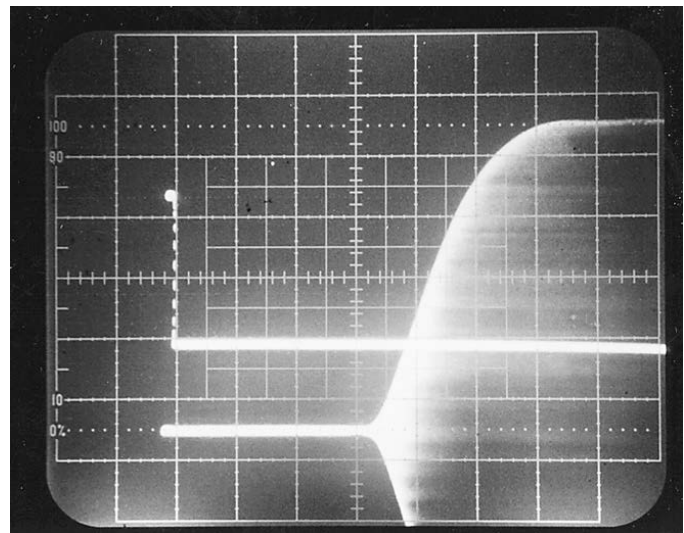

Fig. 4-8A — Oscilloscope Trace of RF Envelope
4.8.3.4 Turn the keying test generator OUTPUT to ON. Adjust the oscilloscope for a display trace similar to Fig. 4-8A. It may be necessary to reduce the generator keying speed. Be sure that the RF power level of the Dit is approximately the same as the carrier level.